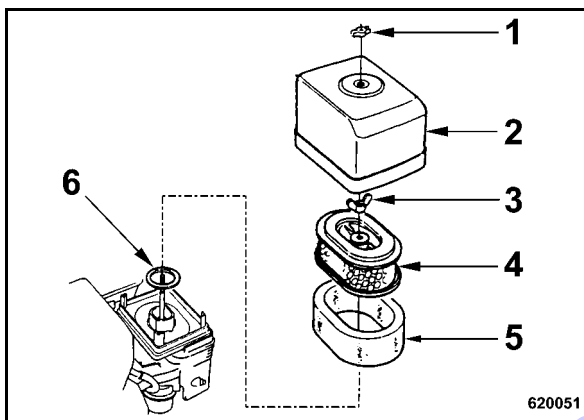

Fig. 67
- Unscrew wing nut (1) (Fig. 67) and remove the housing cover (2).
- Unscrew wing nut (3) and take off paper element (4) with the foam rubber insert (5).
- Check the rubber seal (6), replace if necessary.